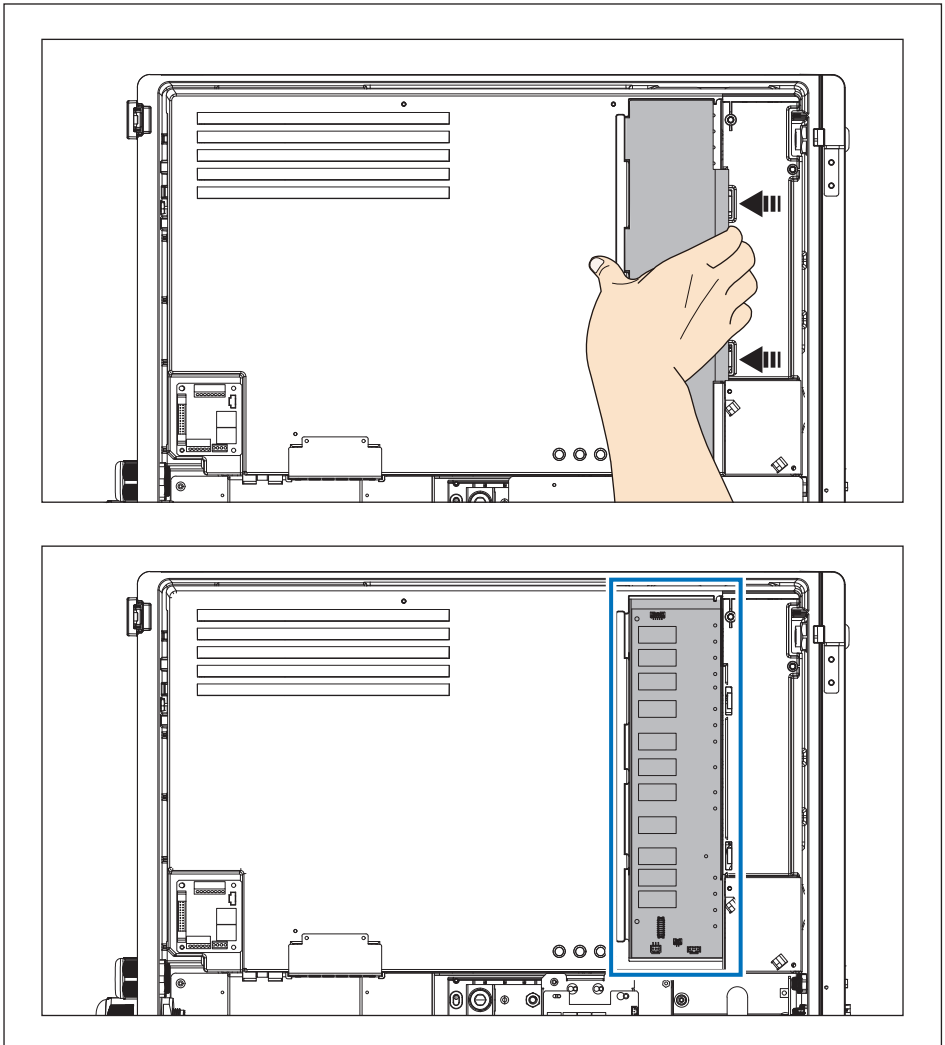

Figure 5-7: Remove the protective cover
3. Press and remove the protective cover. (**Figure 5-7**)